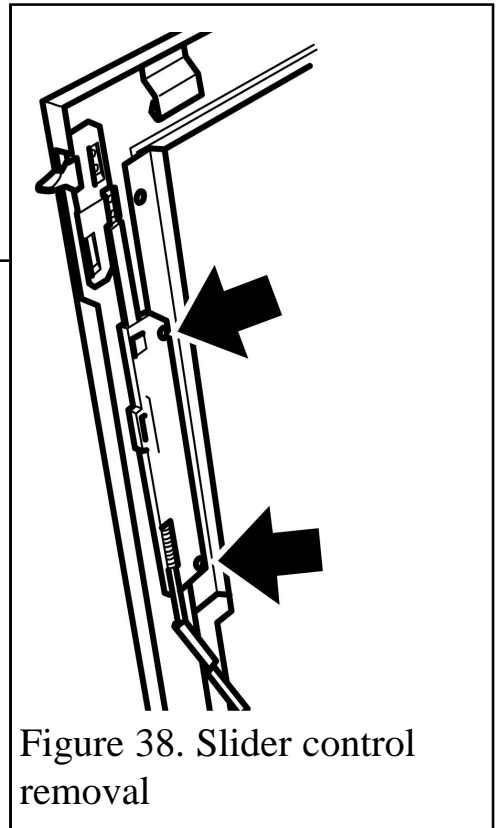

Figure 38. Slider control removal
2. Detach the slider control from the fascia by removing two screws (See figure 38).